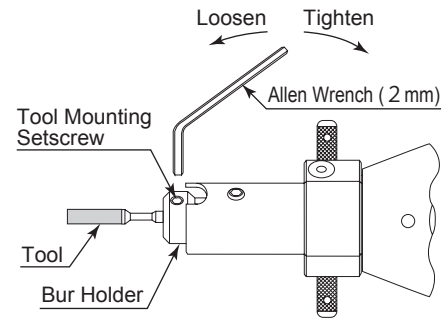

Fig. 4
- Insert a tool (less than  $\phi$  3.2mm) into the bur holder and tighten the tool mounting setscrew with the provided allen wrench (2mm). (Fig. 4)